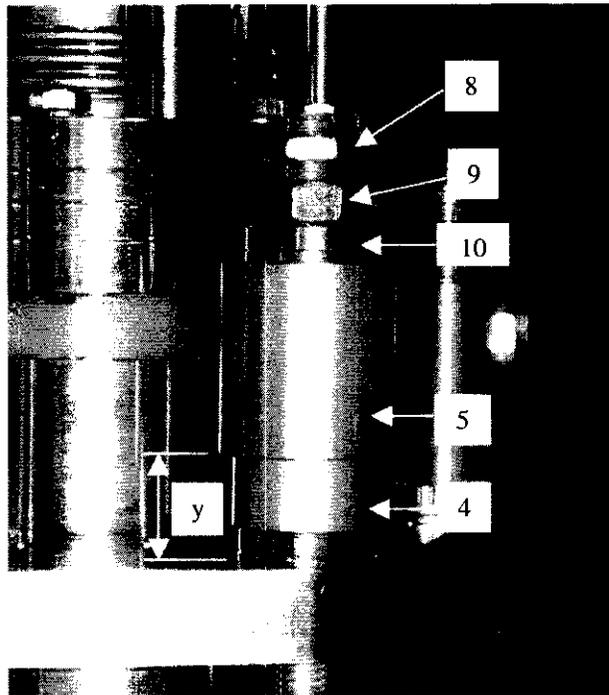

**Figure 1.24** Tightening sequence for the 20 Conflat bolts.
- 1.24** On the power lead flange, number the Conflat bolt holes 1 through 20 as indicated by Figure 1.24.